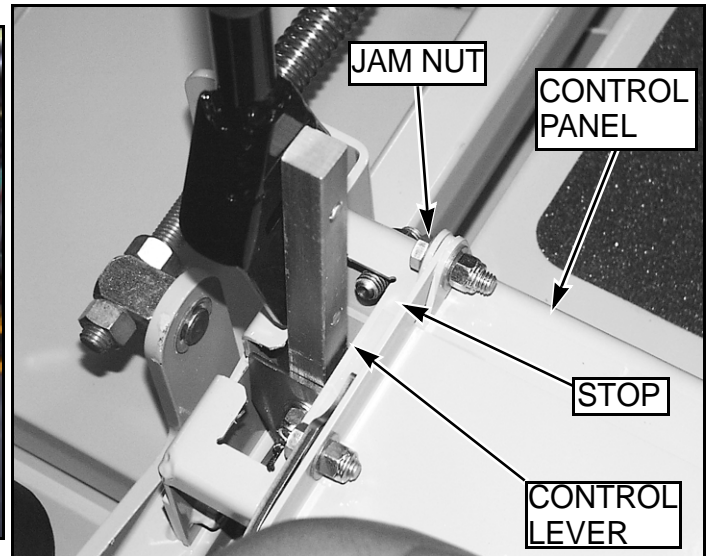

FIG. 23
8. After adjusting for neutral it may be necessary to re-adjust the control lever stop "FIG. 23".
The control lever stops "FIG. 23" are designed to do two things: First, and most important, they must keep the pumps from bottoming out internally. Secondly, the stops may be adjusted to help drive straight when the control levers are pushed forward against the stops.